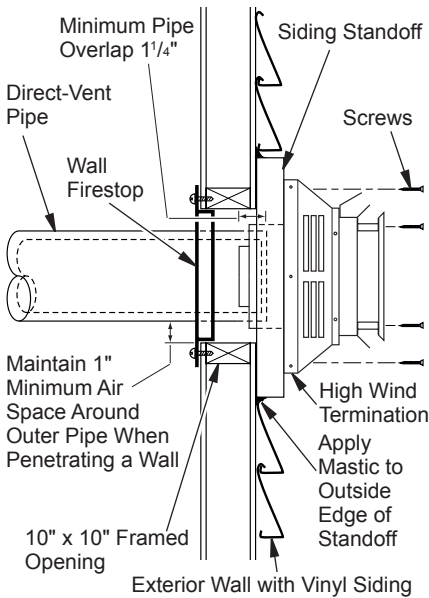

Figure 13 - Typical Horizontal Termination Cap Mounting with Additional Siding Standoff Installed
- Carefully move fireplace, with vent assembly attached, toward wall and insert vent pipe into horizontal termination. The pipe overlap should be a minimum of 1 1/4" (see Figure 13, page 11).
- Combustible Exterior Wall Only:** Slide wall firestop against interior wall surface and attach with screws provided. See Figure 13, page 11, for horizontal termination details.